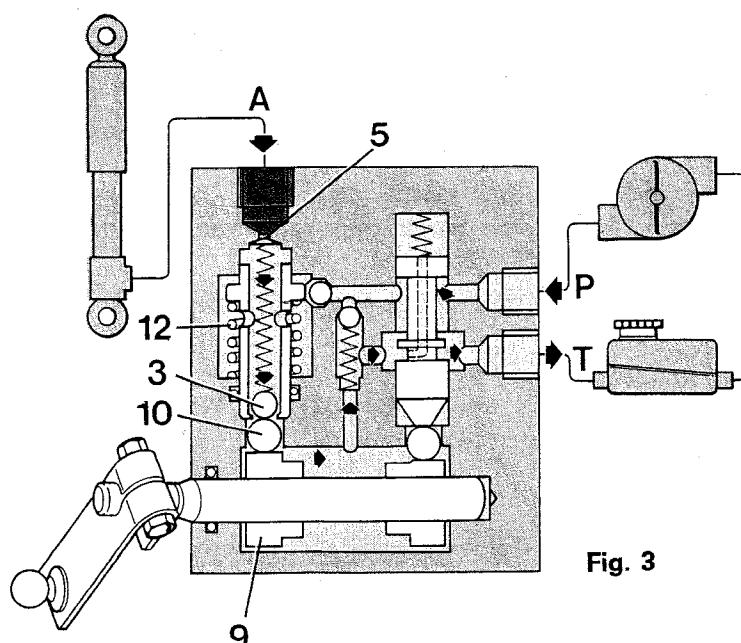

Fig. 3
**If on the other hand the camshaft is rotated clockwise (downwards adjustment position), as can be seen from fig. 3, the section of the passage way for oil through piston (2) is increased.**